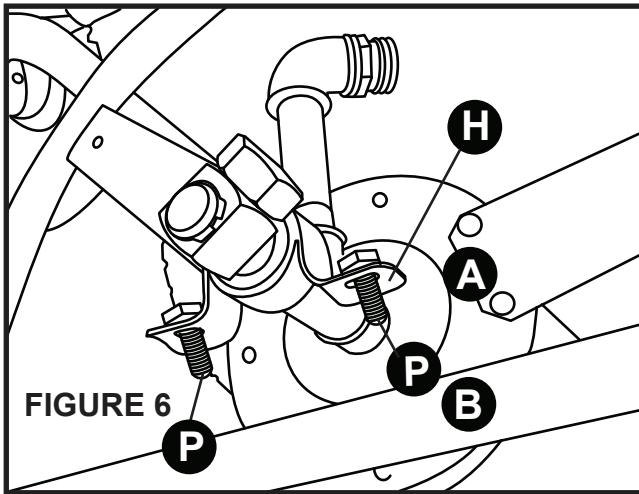

FIGURE 6
6. Slide two frame bolts with washers (P) thru the frame (B) Place the spool (A) over the frame (B) so the U-bushings (H) are oriented over the holes on the frame. **See Figures 6**